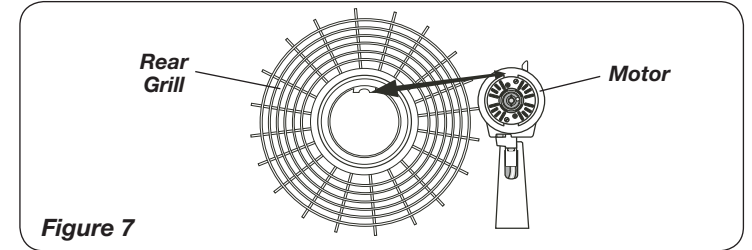

Figure 7
1. Tilt Head Assembly back. Put Rear Grill on Motor. (Figure 7)